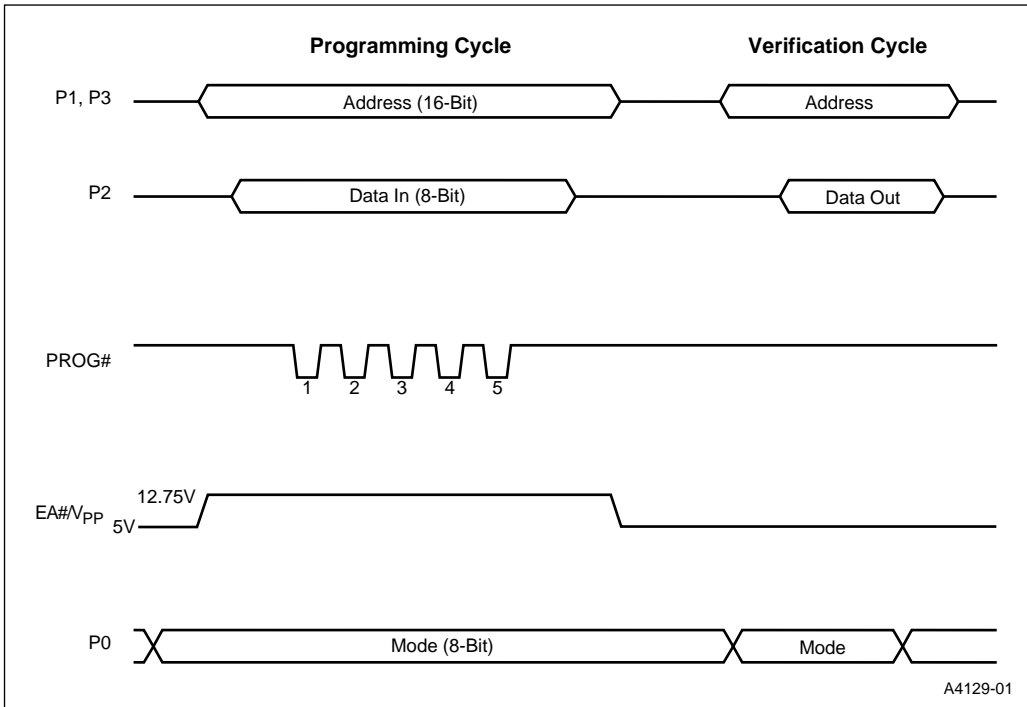

Figure 13-2. OTPROM Programming Waveforms
1. To program, raise V_{pp} to 12.75 V and pulse the PROG# pin. See Figure 13-2 for waveforms.
To perform the write operation, raise V_{pp} to 12.75 V and pulse the PROG# pin per Table 13-1. Then return V_{pp} to 5 V. Waveforms are shown in Figure 13-2.
Verification is performed in a similar manner but without increasing V_{pp} and without pulsing PROG#. Figure 13-2 shows the OTPROM programming and verifying waveforms. For waveform timing information, refer to Figure 13-5 and Table 13-5 at the end of this section.